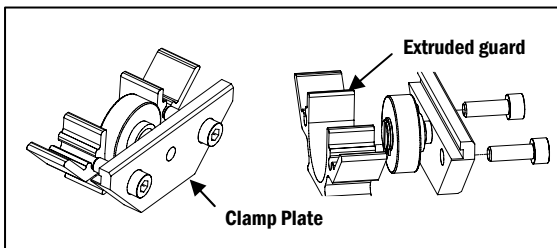

Figure 2
b. Loosen the two M5 Socket head Cap Screws tightened in the clamp from the extruded guard (**Figure 2**). For Full Width Underside Idlers, loosen the screws on both ends, and also the M5 set screws on the bottom of the Clamp Plates (**Figure 3**).